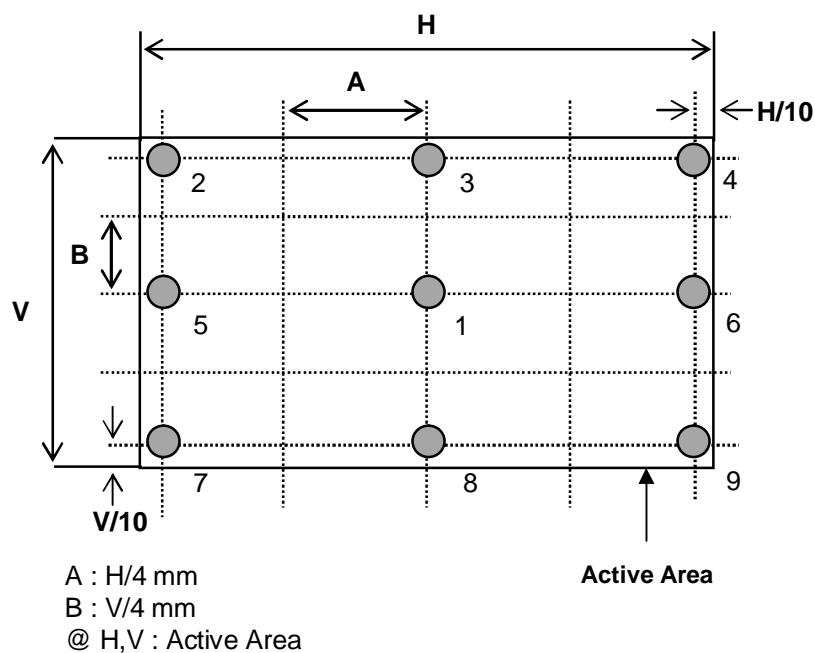

FIG. 2 Measure Point for Luminance
2. Surface luminance( $L_{WH}$ ) is luminance value at center point(P1) across the LCD surface 50cm from the surface with all pixels displaying white. For more information see FIG 2.